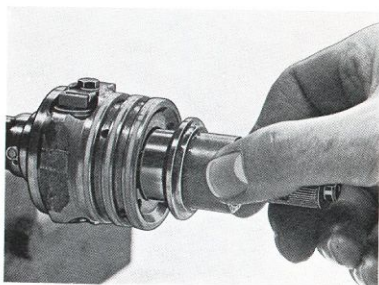

Fig. 6-85. Checking bearing
1. Fit the needle bearings (61) in the bearing sleeve (60) and test it on the worm spindle (Fig. 6-85). The sleeve should turn easily without any noticeable play. If there is any noticeable play, test with thicker needles in the needle bearing. These are available in four sizes with a difference between each of $2 \mu\text{m}$ ($0.002 \text{ mm} = 0.0008''$), see "Specifications". Bearing sleeves are available with external diameter 28.0 mm ($1.102''$) and 28.015 mm ($1.103''$). Use tool 2481 for installing the sleeve.